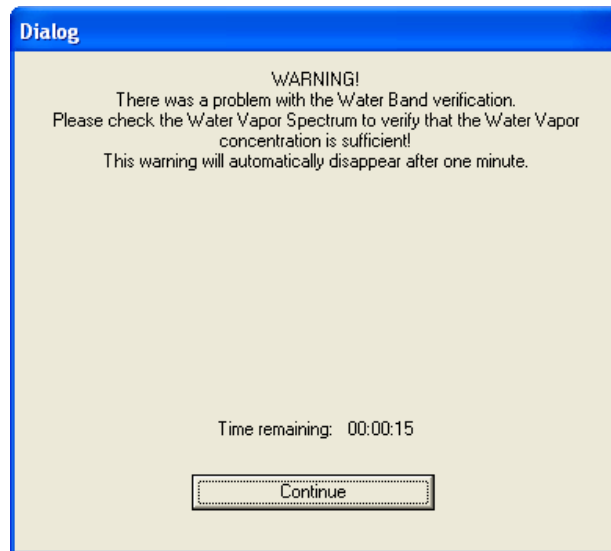

Figure 14: Warning Message regarding the Water Vapor Concentration
- If the warning message shown in figure 14 appears, it is highly recommended to check whether the current water vapor spectrum ((with spectrum file name, for example: *PQ_Tensor_37_External_Port_D316-025_Hyperion_Frequency.1*) is OK. You will find the spectrum in the following directory: *OPUS path\VALIDATION\Data\YYYYMMDD¹\HHMMSS²*. (For information about the file name of the test spectra refer to the OPUS Reference Manual.)